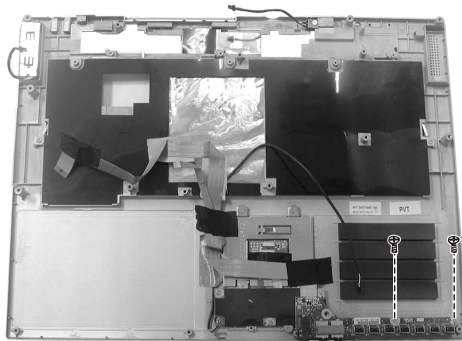

Figure 2-30 Remove the audio board
3. Remove two screws fastening the audio board and release the cable. (Figure 2-30, 2-31)